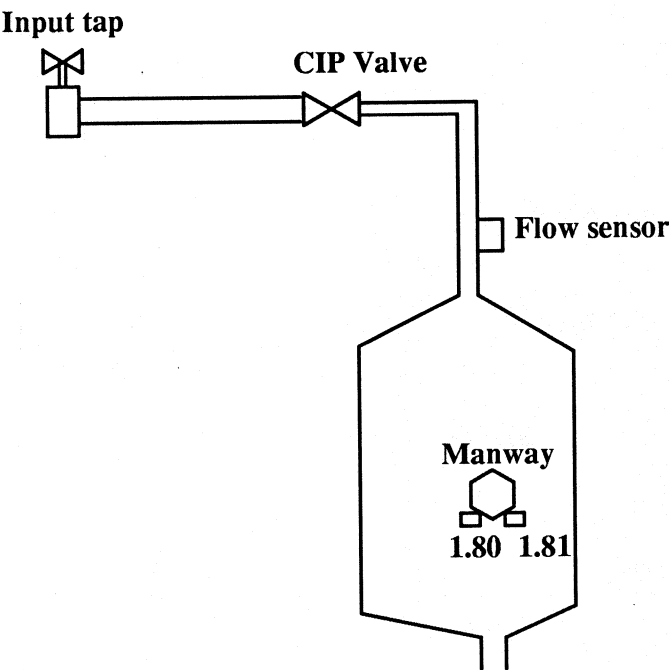

Figure 1: Input Tank in Milk Plant
- b Consider the following hazard on the milk processing tank of Figure 1: failure to clean the tank, which can lead to bacterial contamination of raw milk and hence death of customers. Build a fault tree for this hazard, and calculate the rate of occurrence of the top node. The failure rates of Table 1 can be used for this calculation. Assume that there is one cleaning operation every 10 hours.